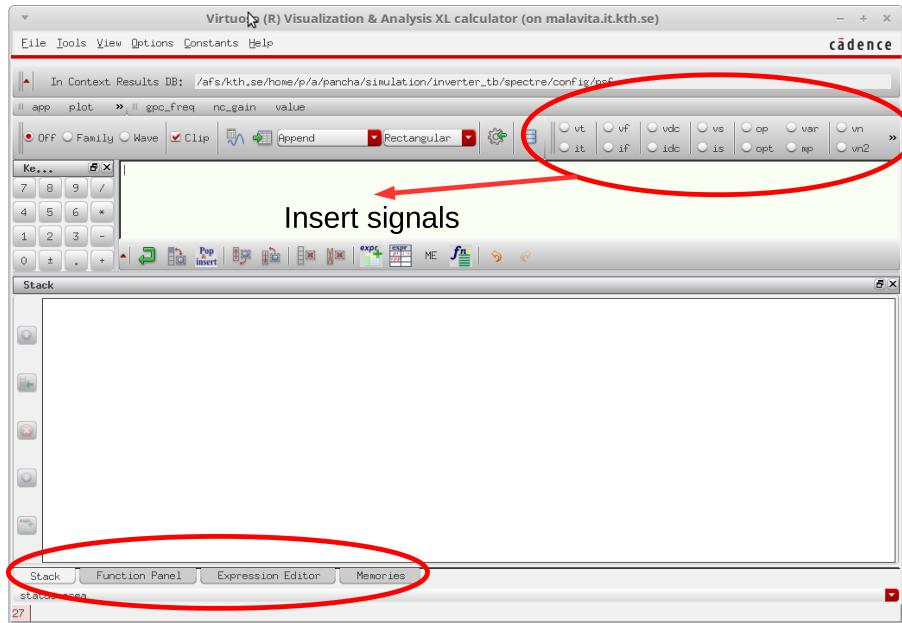
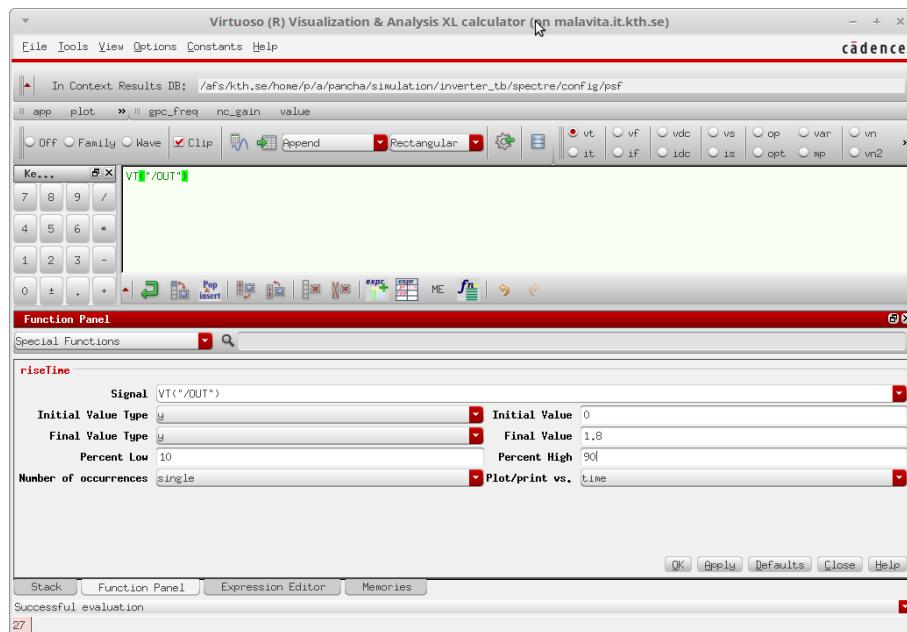

Figure 34: Calculator Window
Figure 35: Setup the riseTime function
in Fig. 34. In this example we will calculate the rise time of the output voltage. To do so:
- Switch to the Function Panel in the bottom of Fig. 34. Select the `riseTime` function and fill in the necessary fields as shown in Fig. 35.
- Click on the table button ("Evaluate the buffer and display the results in a table") which is located in the left of the "Append" button (Fig. 35).